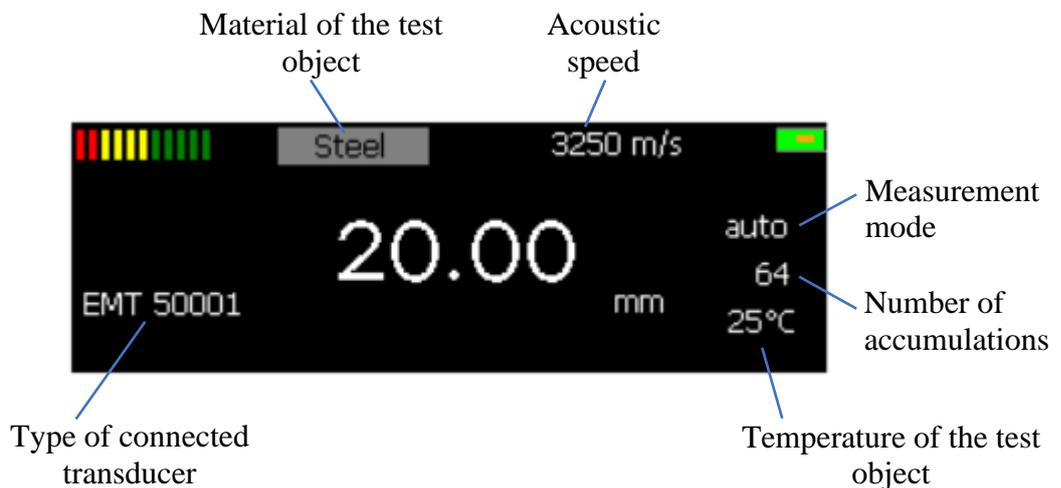

Figure 2.3 – Selecting the field to edit
2.4.1 The following current Device settings are displayed in the window with the measured thickness (Figure 2.3):
2.4.2 To change the settings, press the  button. One of the fields will be highlighted with a grey color, as shown in Figure 2.3.